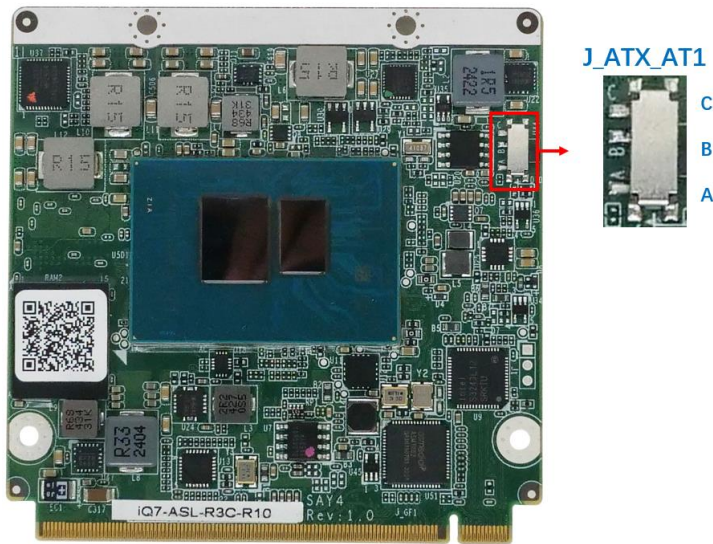

Figure 3-2: AT/ATX Power Mode Setting Location
- CN Location:** See **Figure 3-2**